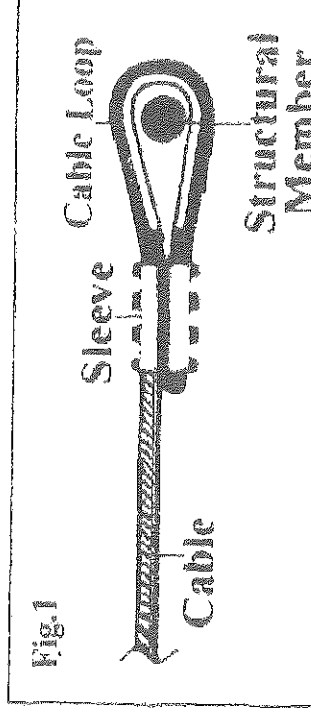
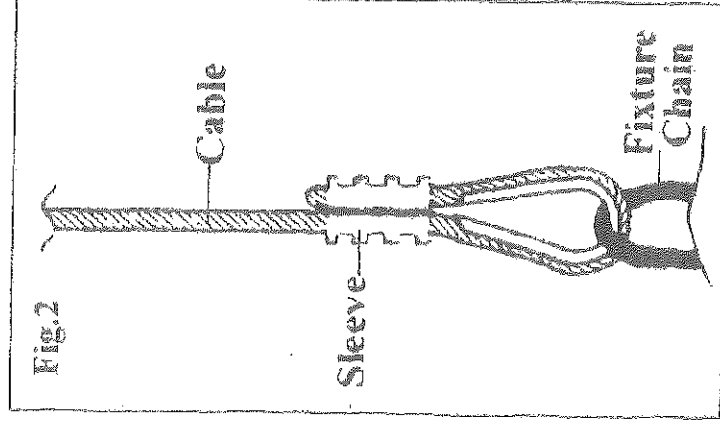

Fig.1
Fig.2
*Please refer to the below Fig.1 & Fig.2 for the detail information!*